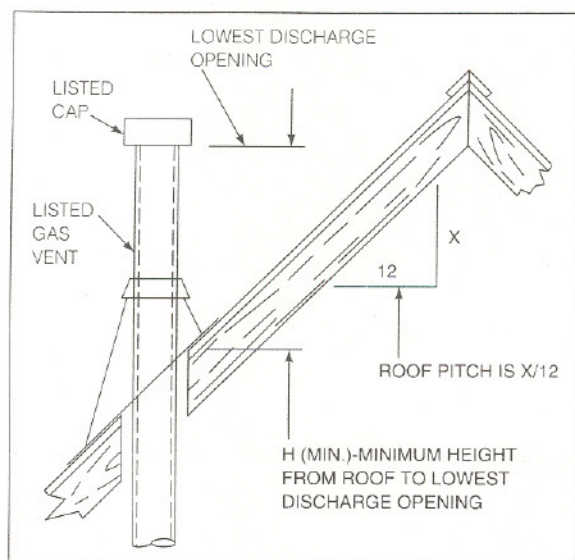

Figure 14
10. Termination cap. Major building codes specify a minimum chimney height above the roof top depending on roof pitch. See Figures 14 and 15.